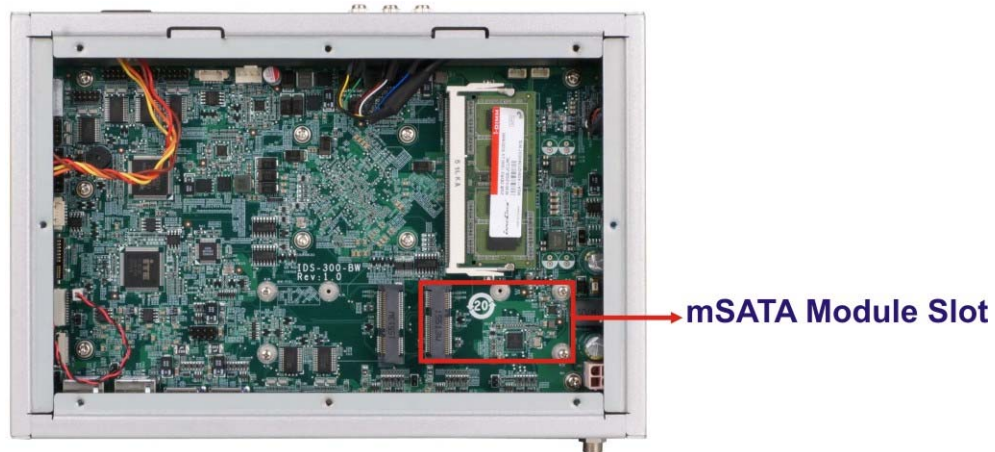

Figure 3-6: mSATA Module Slot Location
Step 2: Locate the PCIe Mini slot for mSATA module installation (**Figure 3-6**).